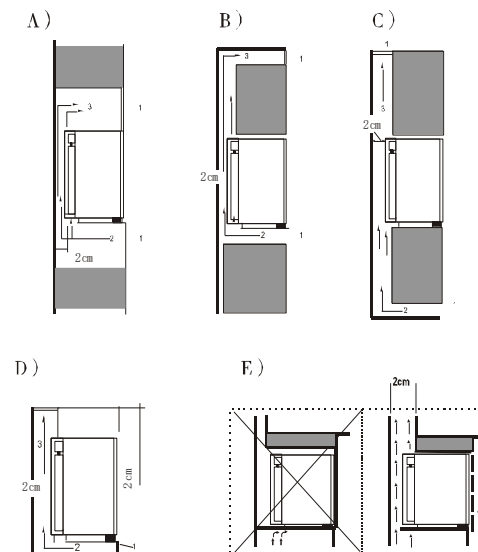

Figure 2
2. In case of built-in placement for solid door, adequate ventilation and circulation space is required. This is shown in examples A, B, C, D and E in figure 2. The area of the admission inlet and exhaust outlet should not be less than 250C m2 to ensure smooth operation. Air flow to admission and exhaust must be unobstructed. Do not put the refrigerator into a closed cabinet.